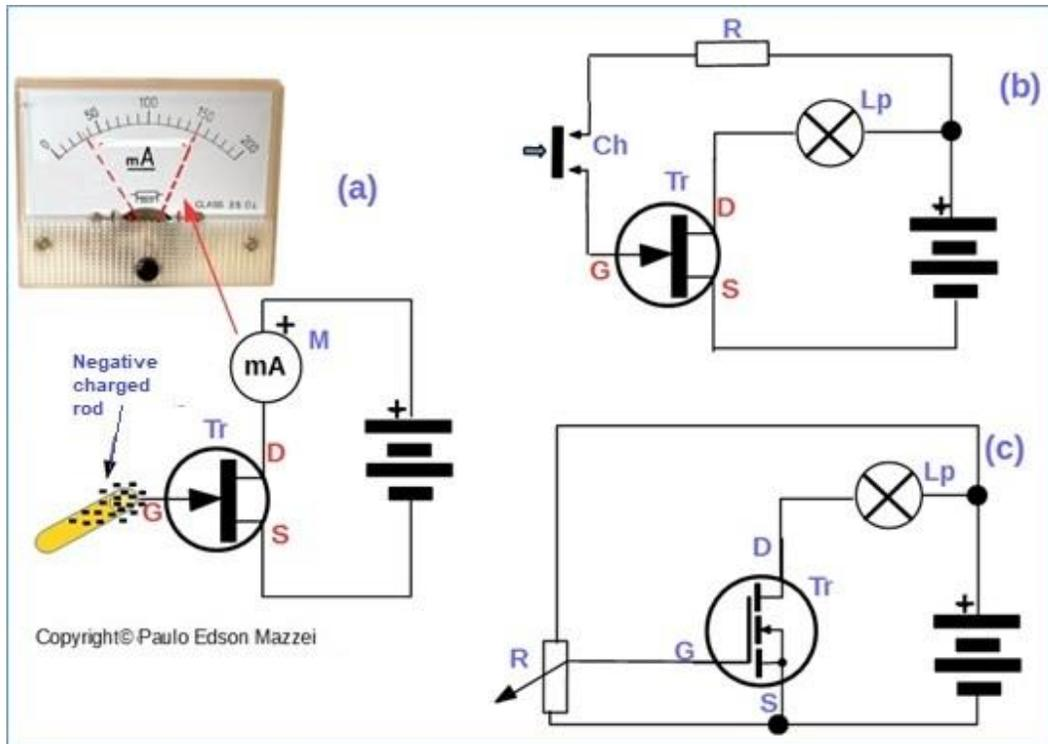

Figure 261- Three simple applications for FET and MOSFET transistors.
- (a) FET and MOSFET can be used as amplifiers, switches and variable resistor with voltage. **Figure 261** shows three practical applications for these semiconductors.